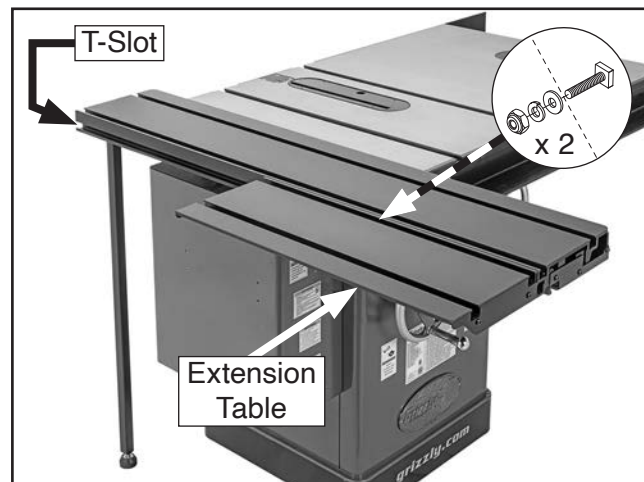

Figure 13. Extension table attached to sliding table.
29. Slide (2) square head bolts pre-installed in extension table into T-slot (see **Figure 13**) on outer edge of sliding table.
30. Position extension table as desired, then tighten (2) lock nuts to secure against sliding table (see **Figure 13**).